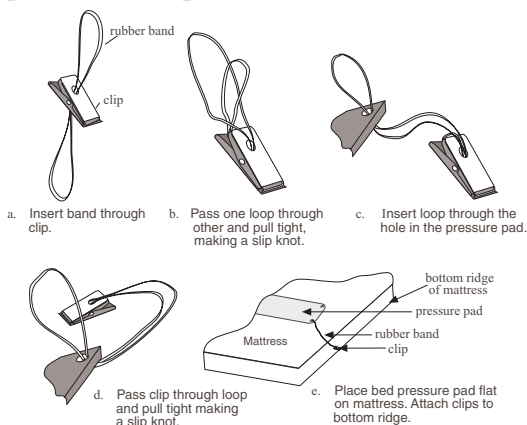

Figure 14
3. Secure this position with the enclosed clips and bands (**Figure 14**). The pressure pad will not work properly if it is not attached in this manner.